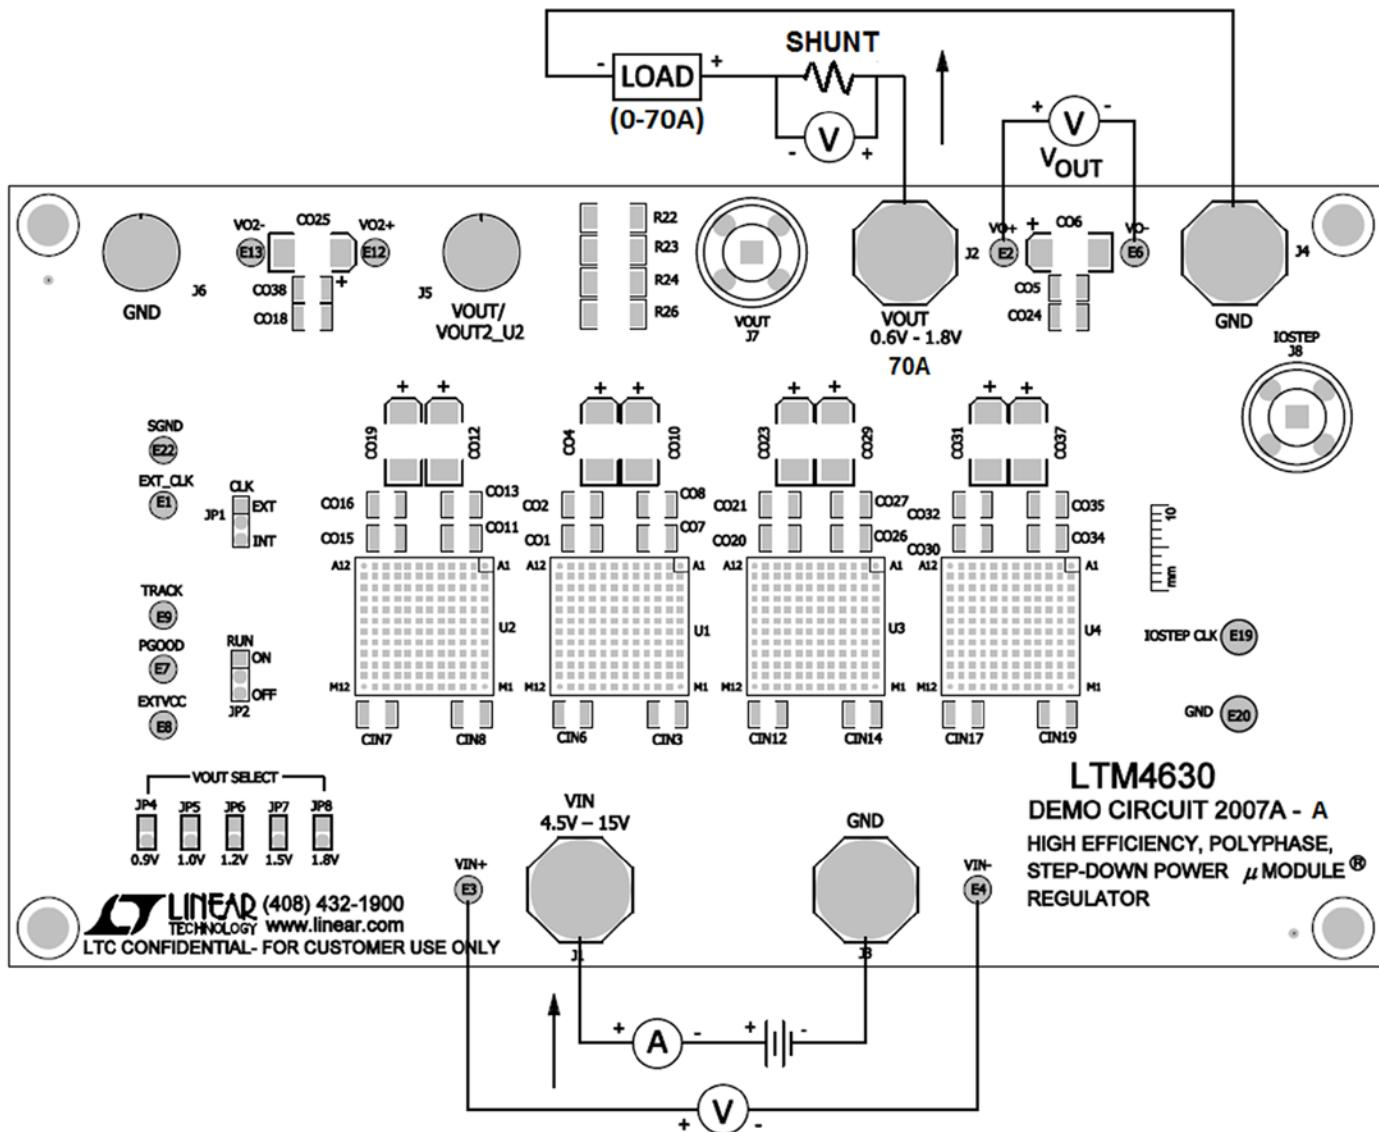

Figure 2. Test Setup of DC2007A-A
Demonstration circuit DC2007A-A is easy to set up to evaluate the performance of PolyPhase operation of the LTM4630EV. Due to the high input/output current, the user should select the proper input supply/load/cable which can sustain the full load operation. It's recommended to pull the load current from J2 and J4. The load current pulled from J5 and J6 shouldn't exceed 18A. Please refer to Figure 2 for proper measurement setup and follow the procedure below:
2. With power off, connect the input power supply, load and meters as shown in Figure 2. Preset the load to 0A and V_{IN} supply to 12V.